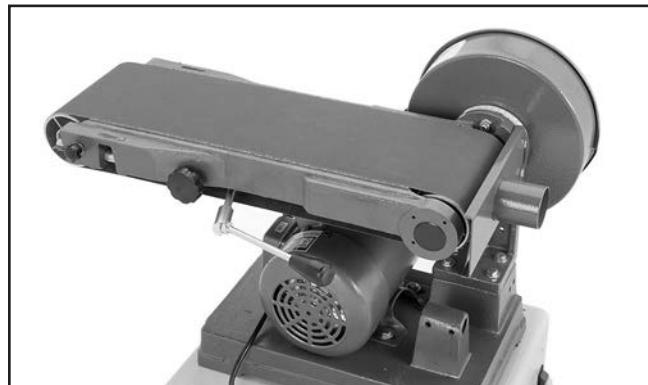

Figure 76. New belt installed.
6. Position the belt in the center of the roller, then move the quick release tension lever toward the motor to tension the belt (see **Figure 76**).